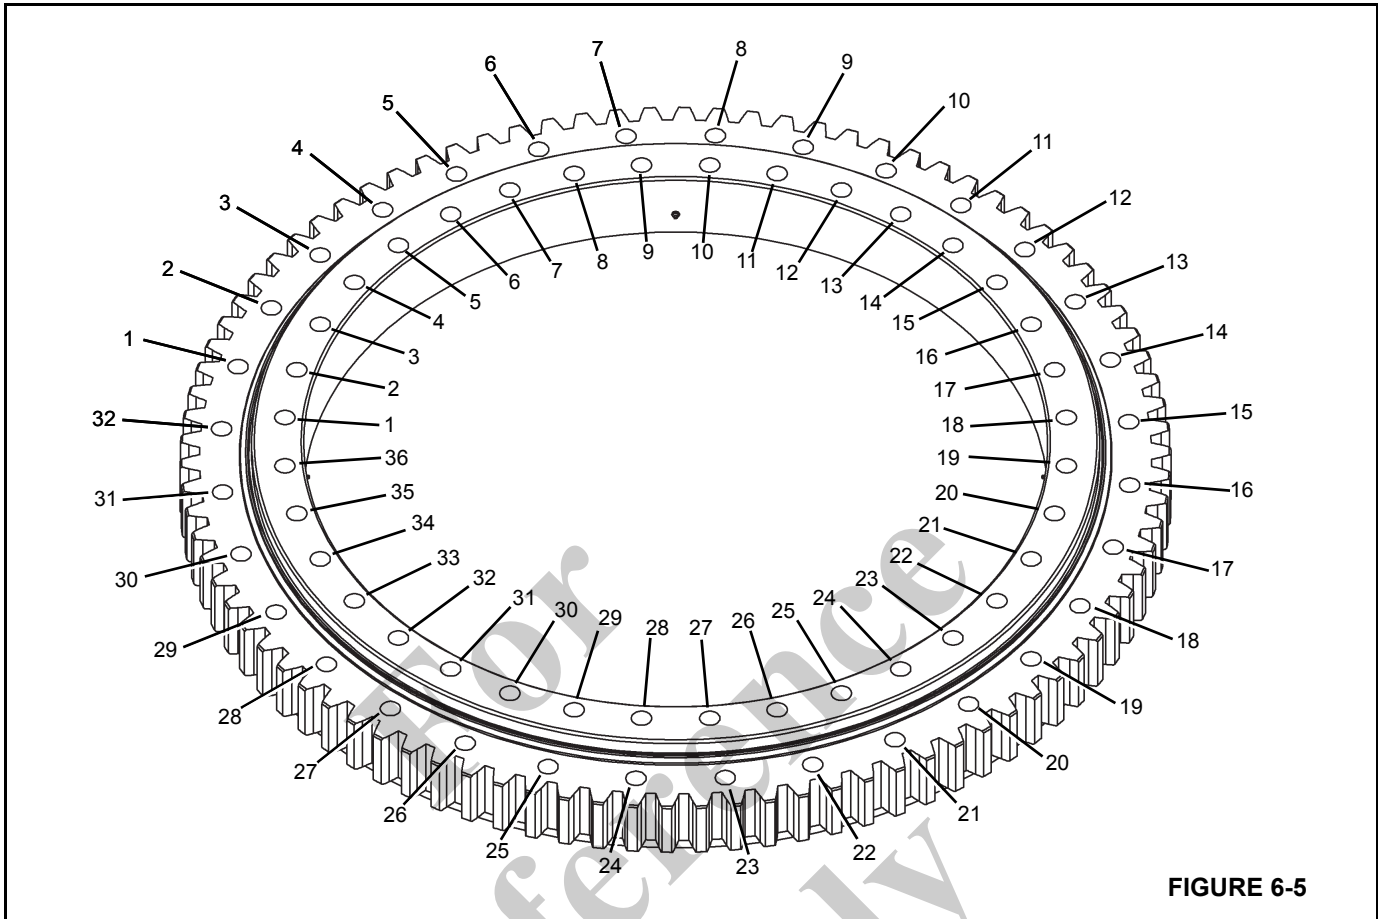

FIGURE 6-5
The inner race of the bearing is secured to the turret by 36, 7/8 inch Grade 8 bolts (Figure 6-5). The outer race of the bearing is secured to the carrier frame by 32, 3/4 inch, Grade 8 bolts (Figure 6-5).
2. Torque eight bolts (Figure 6-5) to 453 lb-ft (614 Nm) using the following sequence pattern; 1, 19, 10, 28, 6, 23, 15, and 33. Tools used are the socket, multiplier, backlash adapter, necessary extensions, and torque wrench.
Torque eight bolts (Figure 6-5) to 453 lb-ft (614 Nm) using the following sequence pattern; 1, 17, 9, 25, 4, 20, 12, and 28. Tools used are the socket, multiplier, backlash adapter, necessary extensions, and torque wrench.